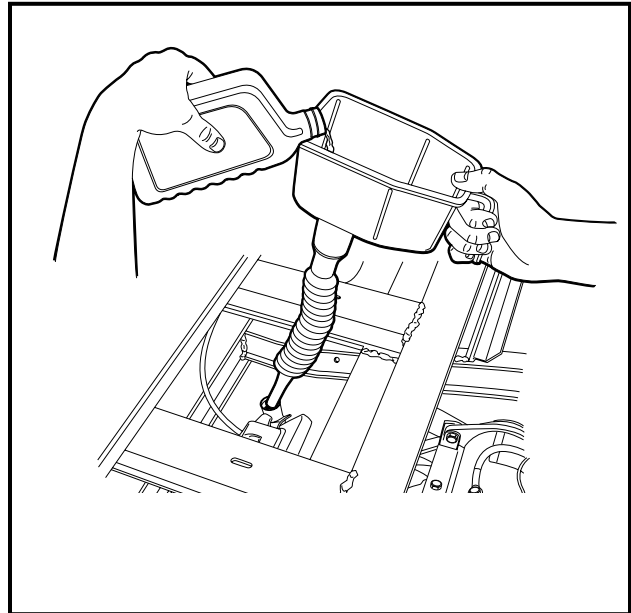

Figure 13-12 Add Engine Oil
7. Install oil drain plug in the crankcase and tighten to 20 ft-lb (27.1 N·m). Apply a light film of oil on the seal of a new oil filter and install the filter on the crankcase. Fill the crankcase to the proper level with the correct type of oil (Figure 13-12, Page 13-9). **See Periodic Lubrication Schedule, Section 10, Page 10-2.**